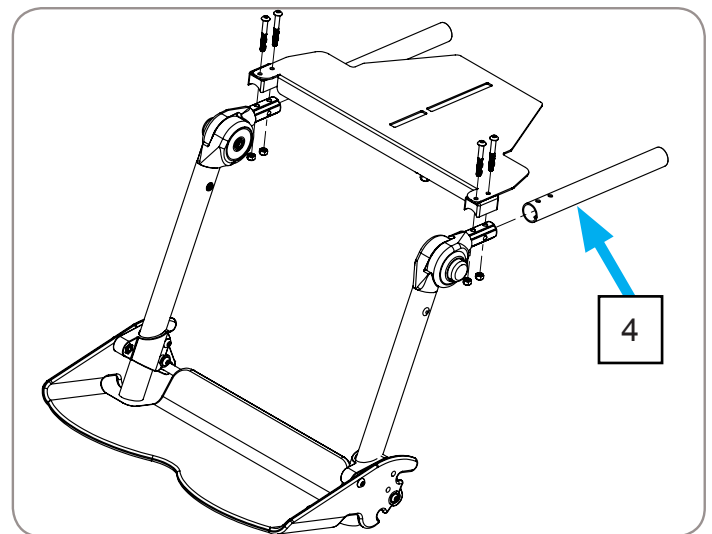

Figure 26
6. Install long seat tubes **4** with same hardware. Reference Figure 26.